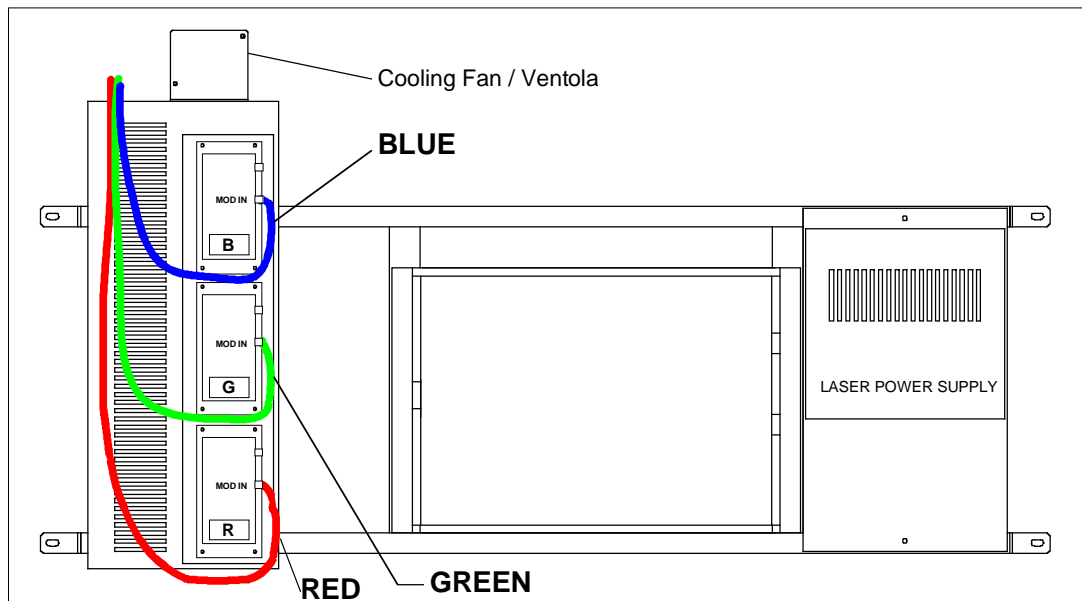

Fig.10 - Connections to the optical group
Connect the three RGB cables coming from the **LMI** panel to the driver inputs on the modulator control panel, placed near the laser group (see fig. 10).
2. **The modulator control panel cooling fan to be properly connected and working (fig. 10 on page 19).**